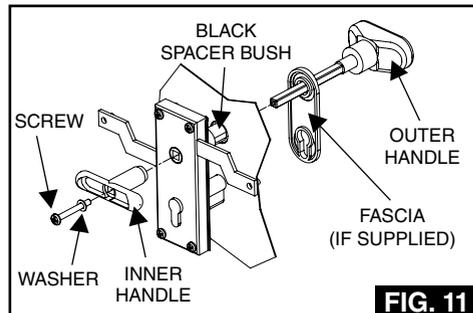

FIG. 11
Check that there is a black spacer bush fitted into face of door (See Fig 11).
- Remove the screw and washer from the outer handle (See Fig 11) and pass the handle spindle through the lock as shown.